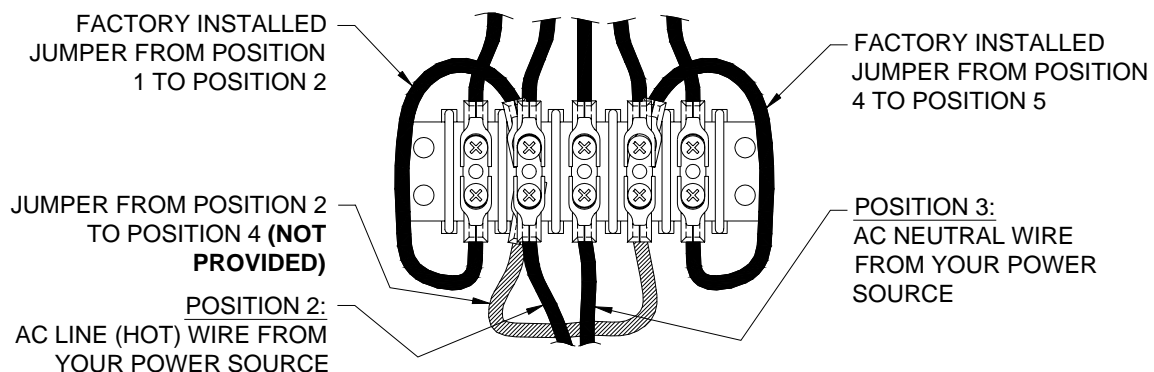

Figure 9 120 VAC Connections
- If you are going to connect the scoreboard to a 120 VAC supply, connect the AC line wire to position 2 and the AC neutral wire to position 3 of terminal strip T4 on the junction chassis. Add a jumper from position 2 to position 4. **This jumper is not provided.** Refer to figure 9.